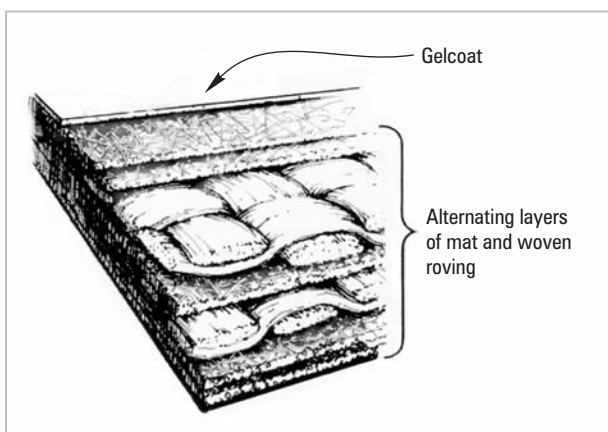

Figure 1-1 Typical solid (single skin) fiberglass laminate. Various reinforcing fabrics are bonded together with polyester resin.
Generally, production fiberglass boat hulls are built in a female mold. A release agent is first applied to the surface of the mold, over which the gelcoat material is applied. Gelcoat is usually a pigmented, unsaturated polyester resin and may be anywhere from 12 to 22 mils thick. It is designed to act as a moisture barrier for the underlying laminate, as well as to provide a smooth, glossy, cosmetic finish. Subsequent layers of fabric are saturated with resin and laid up over the gelcoat. There are as many lay-up schedules as there are boats. A typical hull section might consist of the layer of gelcoat, several alternating layers of mat and woven roving, and in many cases a core material such as end grain balsa or foam, followed by several more alternating layers of saturated mat and woven roving (*Figures 1-1 and 1-2*). Hull thickness may vary from boat to boat. Older boats were often laid up with a solid glass laminate thickness of 1½" (3.8 cm) to as much as 5" (12.7 cm) in the keel areas of the more heavily-built boats. Today, however, the trend is toward thinner, lighter laminates, making the structural integrity of each of the laminate components all the more critical.
- b. **Minor cracks** or scrapes that run through the gelcoat into the first chopped strand mat layers of the laminate (*Figure 1-1*) should be repaired with epoxy using the procedures described below (Section 2.1). Finish with the gelcoat repair technique described later in Section 2.2.1. If necessary, reinforce the laminate to reduce flexing as described in Section 3.